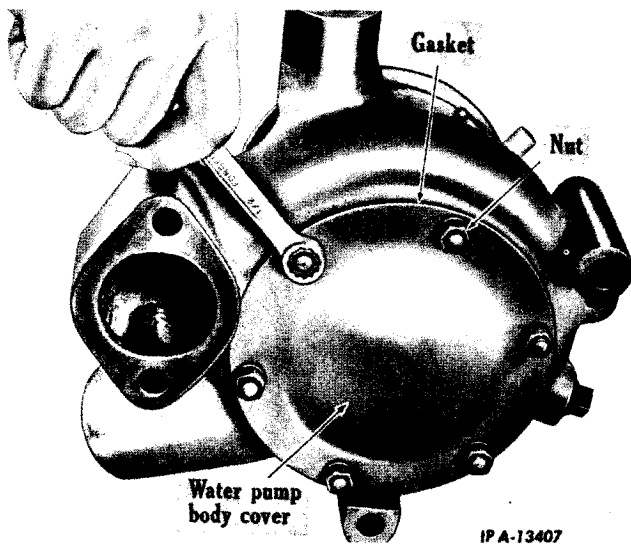
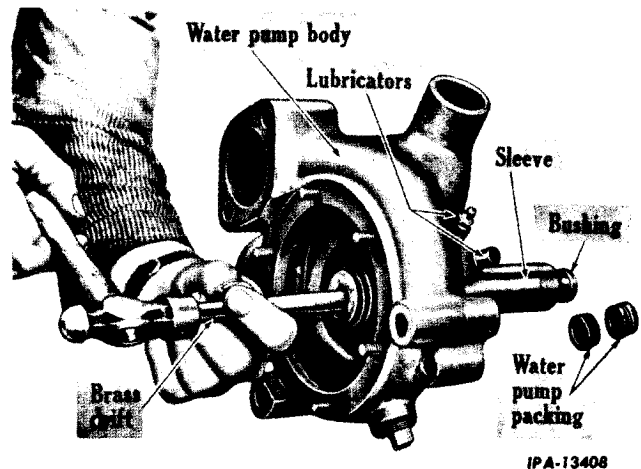

Fig. 18 - Water Pump Cover Removal.
Fig. 19 - Water Pump Packing and Shaft Bushing Removal.
3. Remove the bearing clamp nut (17) and top bearing retainer (15), with the front oil seal (13) and gasket (14) free of the pulley hub. Tap the oil seal out of the bearing retainer.
4. Remove the water pump body cover (1) and gasket (2). (Fig. 18) Push out the shaft with impeller (3) from the shaft end.
5. Remove the pump pulley (11) with flange. Remove the pump oil seal, front (13), ball bearing (26) and spacer (25) from the pulley. Drive the rear bearing (10) and the oil seal (9) out of the opposite end of the pulley hub.
6. Remove the water pump packing and shaft bushings from the shaft sleeve (Fig. 19). Do not press or drive the sleeve (5) out unless inspection reveals that the sleeve or pump body must be replaced.
4. Remove the fan hub assembly (1, 9, 10) from the sleeve and body. Remove the rear bearing (12) from the sleeve and body, and tap the front bearing out from the opposite end of the pulley hub.
5. Remove the water pump packing from inside the sleeve (Fig. 19). Do not press or drive out the sleeve from the body unless necessary to replace either one.